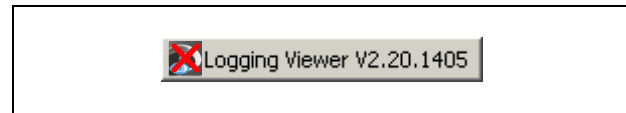

figure 50.2: Logging Viewer icon (faults)
- When the *Logging Viewer* has been started and faults have occurred, the icon in the button has a red cross (see figure 50.2).